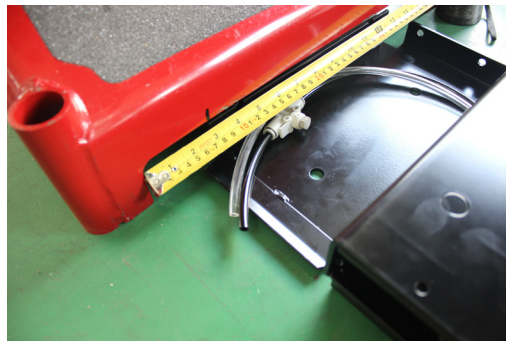

Figure 5 - Position LIFT ASSY against Wheel Balancer
4. Slide LIFT ASSY so the BASE TRACK is up against the wheel balancer chassis; below the stub shaft. With the aid of a tape measure, place the BASE TRACK 2.8-inches from the balancer edge as shown (fig 5)